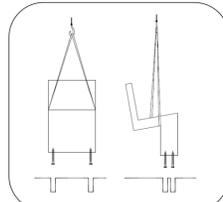

Fig. 1 - Crane install
1. Set in place with proper equipment such as a forklift or crane. See Fig. 1.